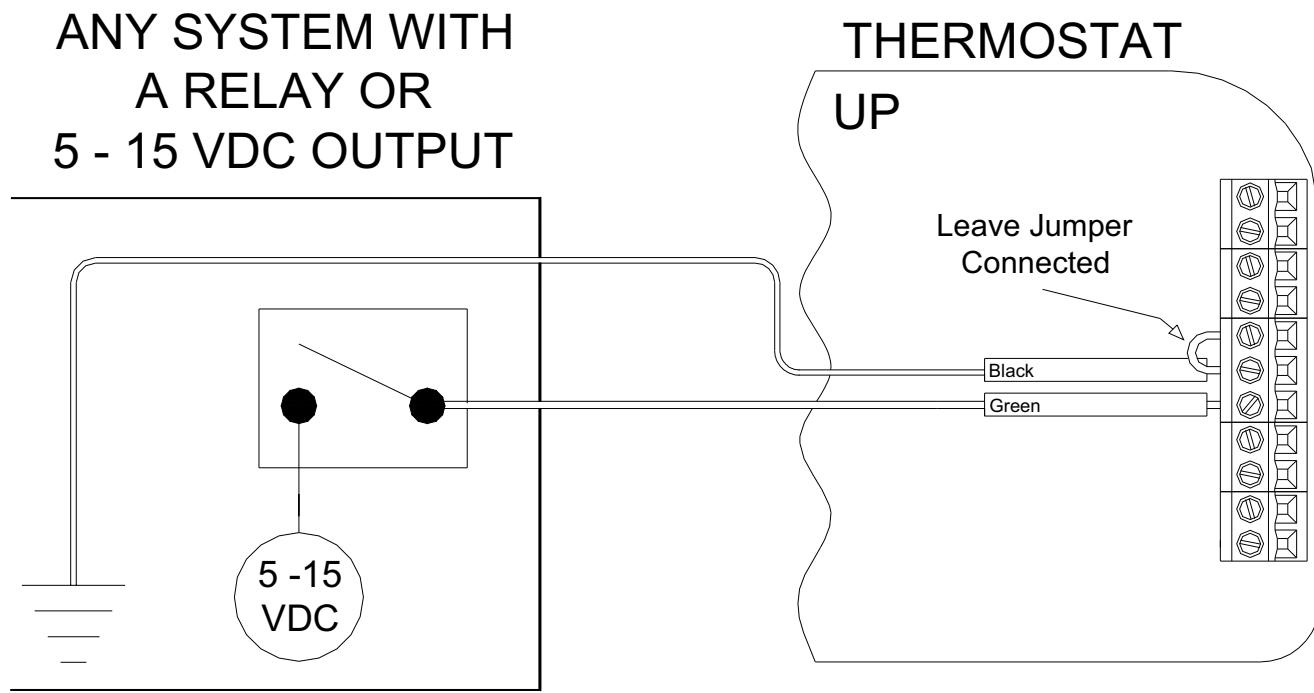

Figure 12 – Connections to a Remote Setback Switch
Run a two-conductor wire from the remote switch to the thermostat location. Make the connections to the Black and Green terminals under the section marked “Comm” on the right terminal strip - See *Figure 12*.
1. When connecting to a remote setback switch, the metal jumper between terminal labeled “N/C” and the terminal labeled “Black” on the right terminal strip must remain in place – See *Figure 12*.